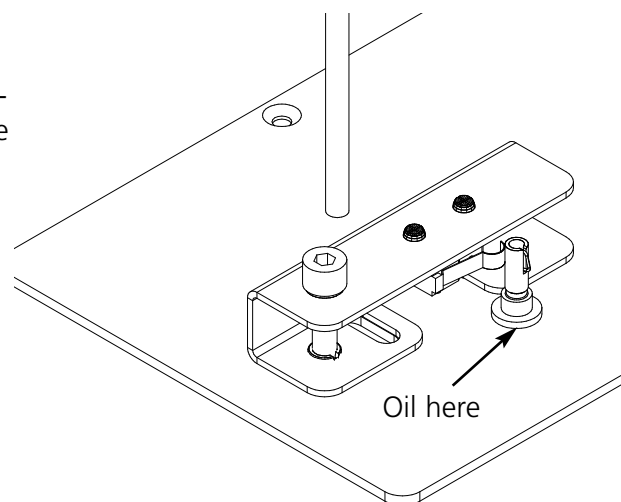

Figure 3-28
2. Clear the obstruction and lubricate the drive shaft (refer to Figure 3-28).